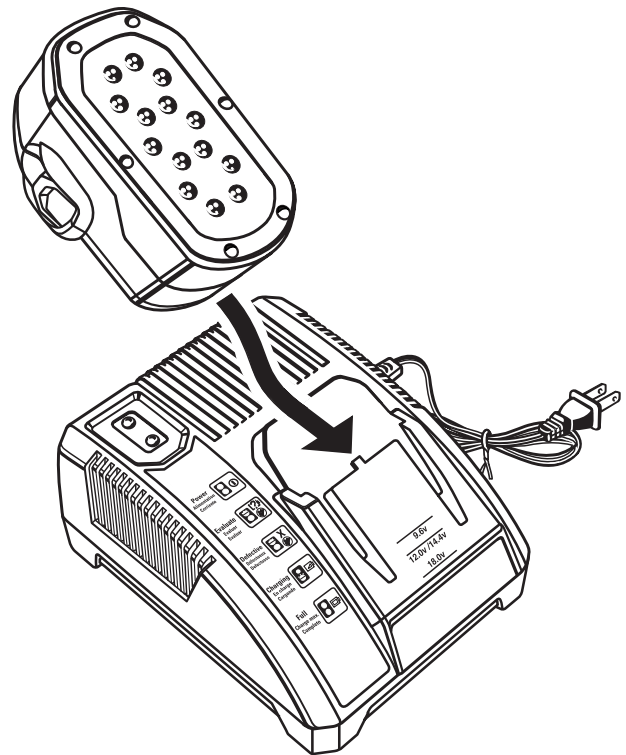

Fig. 7
- Attach the battery pack to the charger by aligning the raised ribs on the battery pack with the grooves in the charger, then slide the battery pack onto the charger. See *Figure 7.*